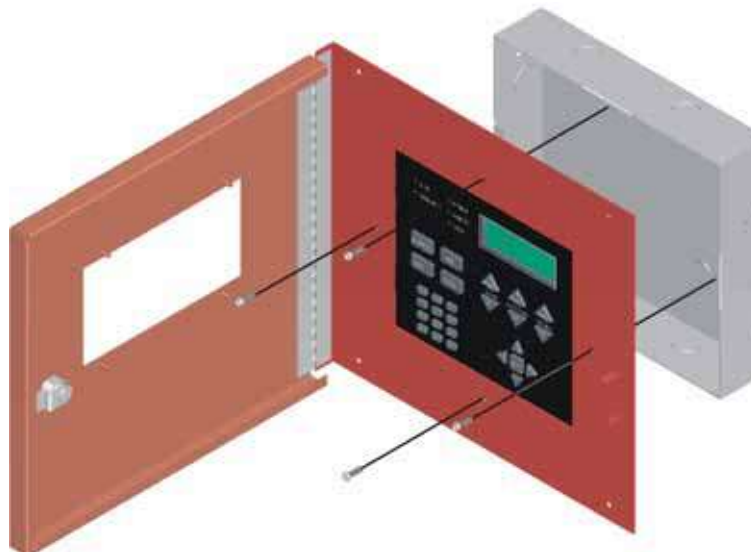

Figure 4-11 Attaching Annunciator/Door Assembly to Backbox
4. Attach the annunciator and door assembly to back box as shown in Figure 4-11 using the supplied screws.